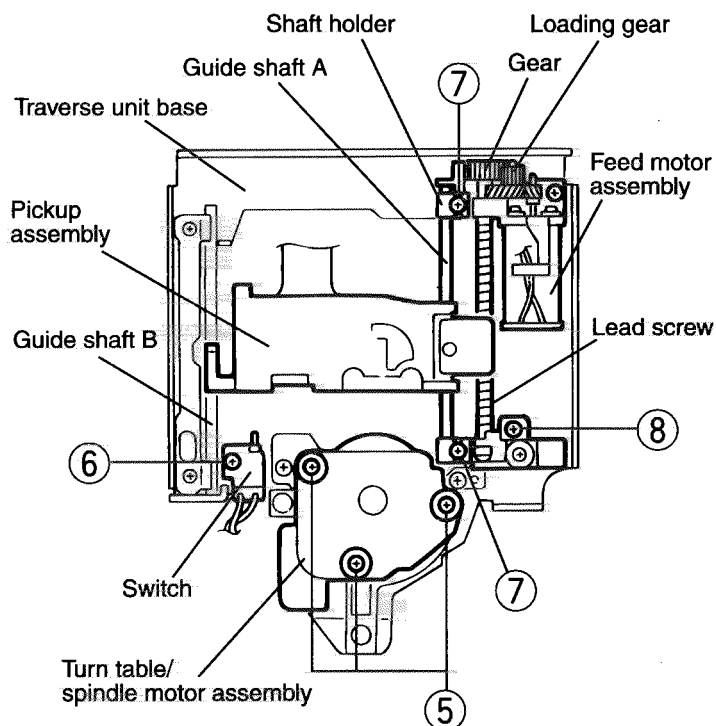

Fig. 9
■ Removing the Turn Table / Spindle Motor Assembly (See Fig.9)
4. Remove the three screws ⑤ attaching the turn table/spindle motor assembly.
■ Removing the Switch (See Fig.9)
4. Remove the screw ⑥ attaching the switch.
■ Removing the Pickup unit (See Fig.9)
4. Loosen the two screws ⑦ attaching the shaft holder to fix the guide shaft A. Then, remove the screws ⑦ with the pickup unit while pulling out the pickup unit from the guide shaft B.
■ Removing the Feed Motor Assembly (See Fig.9 and 10)
5. Remove the two screws ⑧ attaching the feed motor assembly, gear and lead screw.
8. Remove the two screws ⑨ attaching the feed motor assembly.